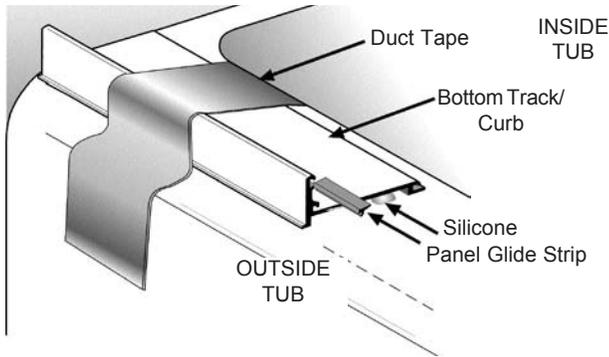

Figure 2
- B. Center the Bottom Track/Curb (#2) on the sill/dam. In some installations, you may prefer to position the Bottom Track/Curb (#2) forward or back of center. For example, by moving the Bottom Track/Curb (#2) forward, you will slightly increase the depth within the shower area (See Figure 2).
- F. Cut two pieces of Duct Tape 12" long. Next, use the Caulking Gun to apply a thick bead of Silicone sealant (approximately 3/8" in diameter) to the bottom surface of the Bottom Track/Curb (#2) along its entire length. Place the Bottom Track/Curb (#2) on the shower sill, in the position you determined in Step 3B. Use the two strips of Duct Tape to temporarily hold the Bottom Track/Curb (#2) in place, but DO NOT place the tape within 2" of the wall. In other words, the distance (gap) between the wall and the tape should be 2" or more away from the walls so that the tape will not be in your way when you install the Wall Jamb (#3) (See Figure 2).